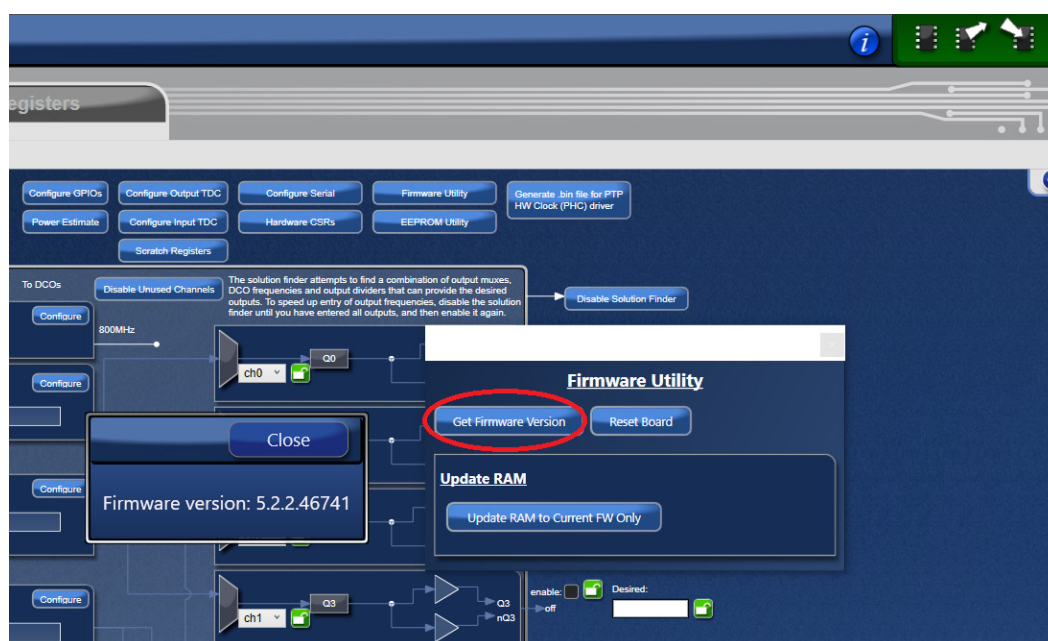

Figure 15. Read Firmware Version of ClockMatrix Chip
3. Read back the Firmware Version to ensure it is correct (see Figure 15).